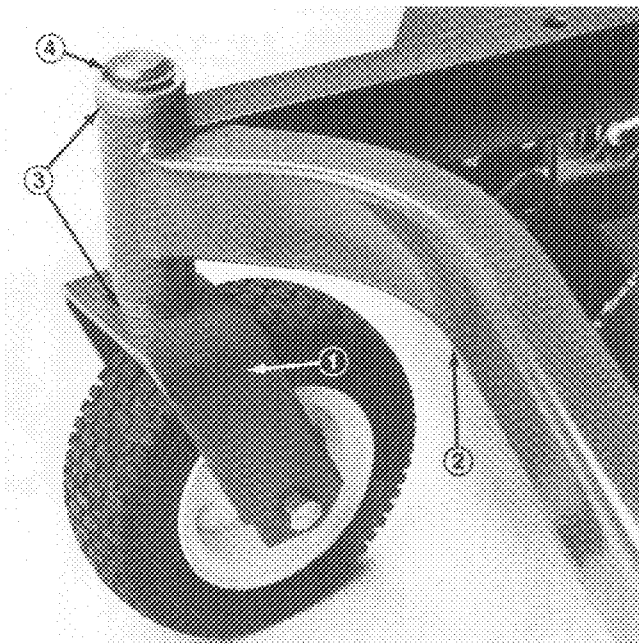

Figure 1
1. Place two thrust washers on each castor wheel shaft (Fig. 1).
2. Insert shafts into carrier frame. Install two more thrust washers and secure with Klip rings (Fig. 1).